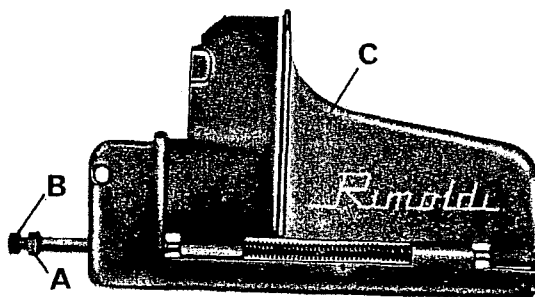

fig. 19
f) Setting of front cover plate (fig. 19)
- Setting of the front cover plate 'C' (fig. 19) is done with the cover plate closed.